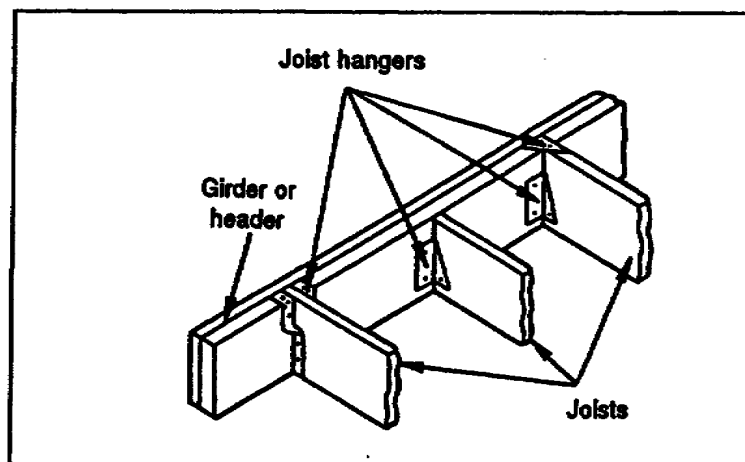

Figure 1-9. Joist hangers
c. Joist Hangers. A girder with joist hangers is used where there is little headroom or where the joists must carry an extremely heavy load (see Figure 1-9).